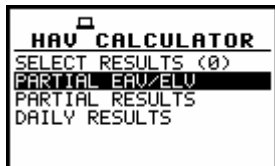

Figure 6-4: HAV calculator screen
1. To view **Partial EAV/ELV** screen, from the HAV or WBV calculator screen (see Figure 6-4 for example and instructions), select “Partial EAV/ELV” and press Menu/Enter key. Screen contents explained: The results are displayed in two columns – the first column for EAV results and the second for ELV results.
2. To view dose exposure with **Partial Results** (or A(8)), select Partial Results from the HAV/WBV Calculator menu (see Figure 6-4).
- To view Daily dose exposure results, select **Daily results** from the HAV/WBV Calculator menu (see Figure 6-4).